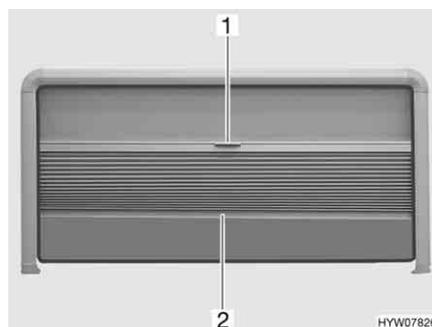

Fig. 60 Hinged window
- Hold the Roman shade in the centre of the bottom rod (Fig. 60,2) and carefully draw it downwards.
- Hold the bottom rod (Fig. 60,2) of the Roman shade in the centre and carefully slide the Roman shade upwards.
- Pull insect screen at the handle (Fig. 60,1) downwards.
- Move insect screen at the handle (Fig. 60,1) fully upwards.